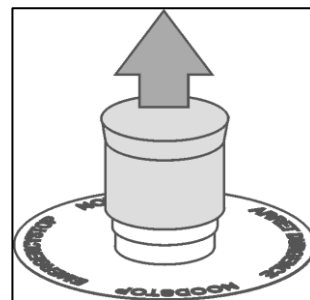

Fig. 5-2
2. Pull the red cap of the emergency stop switch up (Fig. 5-2).
2. Pull the red cap of the emergency-stop switch upwards (Fig. 5-2).